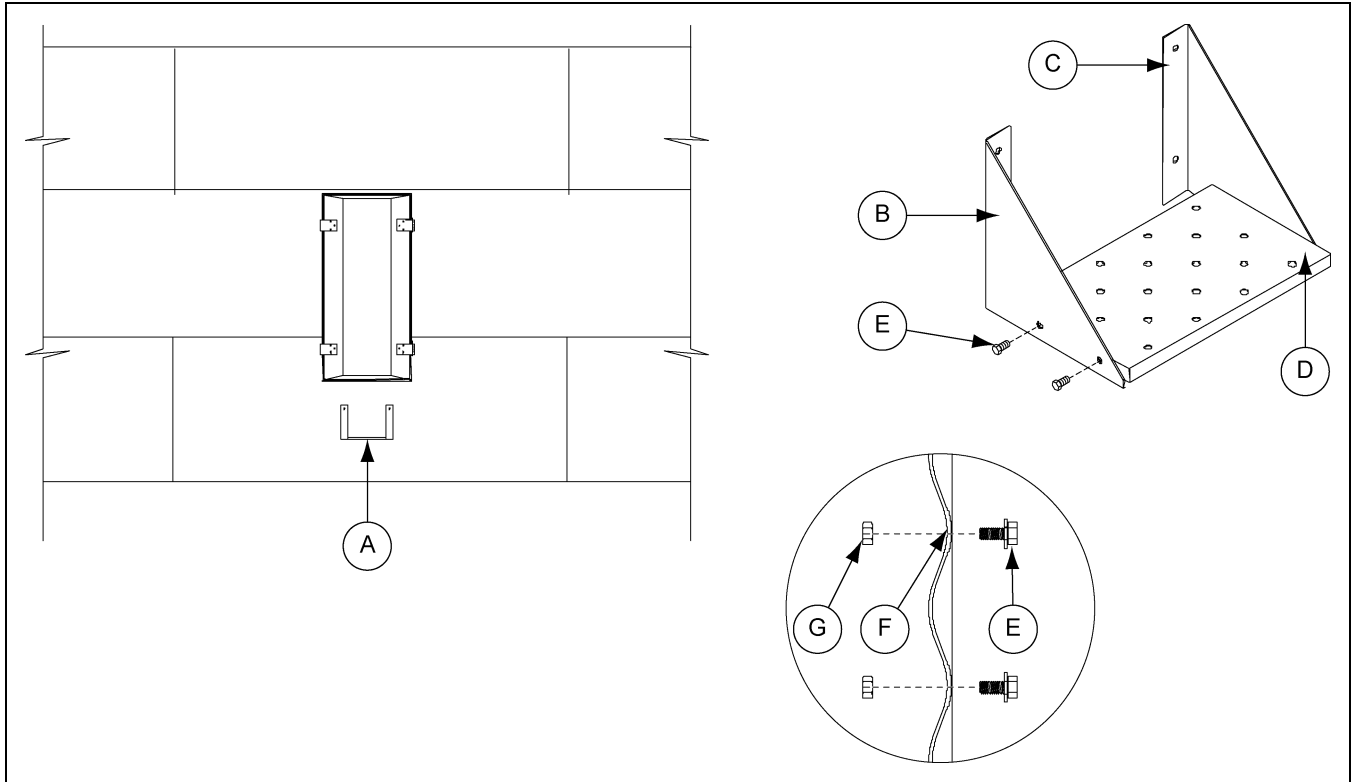

Figure 7F Bin Step
1. Attach the left and right sides (B and C) to the sides of the bin door step (D) using bolts (E) and nuts (G).
2. Center the assembled step under the bin door and use it as a template to field drill the holes (F) in the sidewall sheet on the ridges of the corrugation.
3. Install the bin step (A) to the sidewall sheet using bolts (E) and nuts (G). (See Figure 7F.)